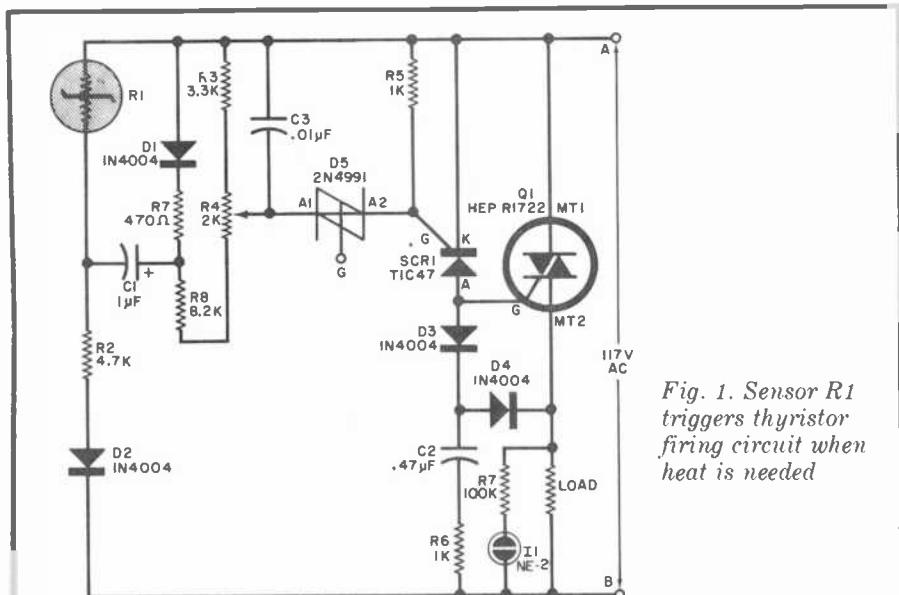

Fig. 1. Sensor R1 triggers thyristor firing circuit when heat is needed
**Circuit Operation.** As the power line's phase angle increases from 0°, the voltage at point A in Fig 1 becomes progressively more positive with respect to point B. Diodes D1 and D2 are both forward biased, and the voltage across R1 (the thermal sensor) continues to rise as the phase angle approaches 90°. The value of R2 is chosen so that, at some point before 90°, sufficient voltage develops across R1 to turn it on, and its impedance drops from a high to a low value. The lower the Moxie's temperature, the higher the voltage across it must be to turn it on. Thus, the value of R2 is determined